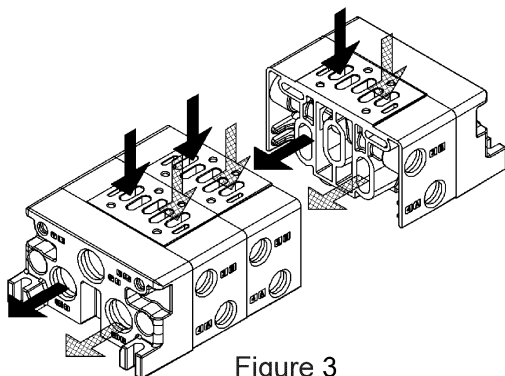

Figure 3
- 3) Exhaust R1 (or R2) is decentralized from Exhaust port R1 (or R2) through each air manifold block. (Figure 3)